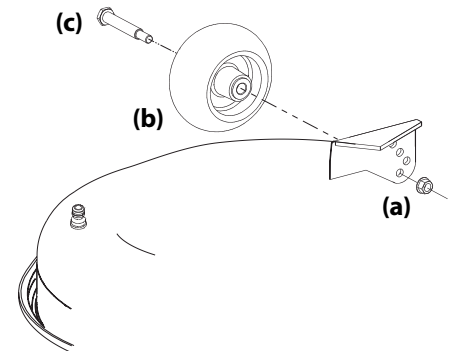

Figure 2-9
- a. Remove the lock nut (a) securing one of the front gauge wheel (b) shoulder screws (c) to the deck. Remove the gauge wheel (b) and shoulder screw (c). See Figure 2-9.